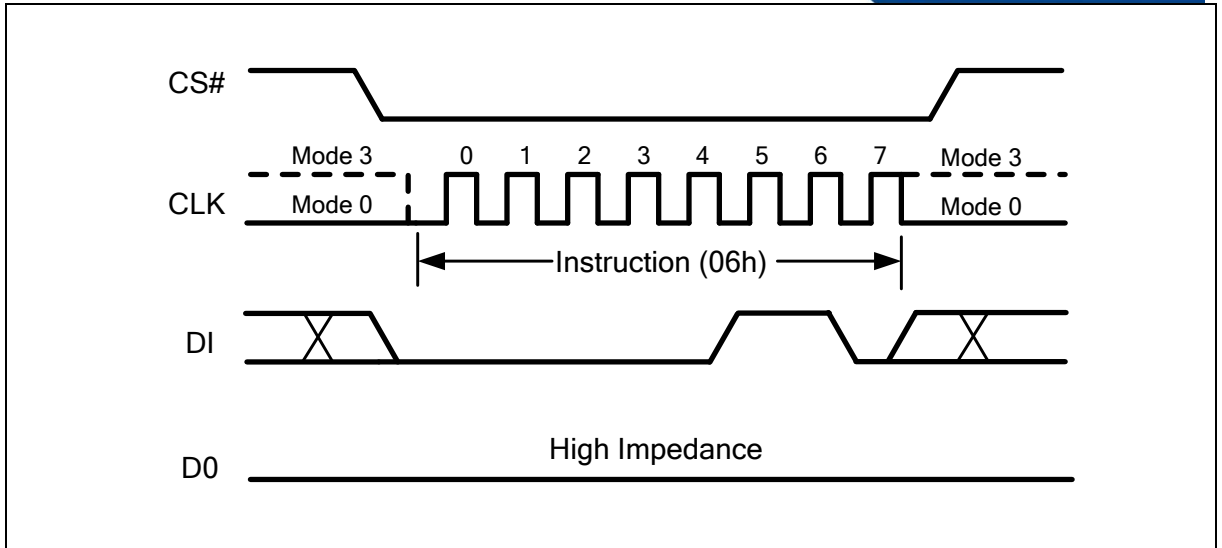
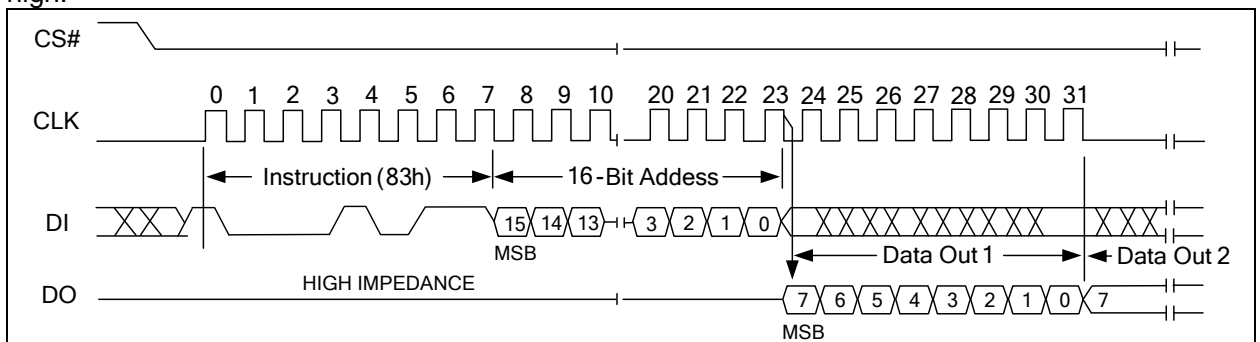

Figure 5 Write Enable Instruction
Figure 15 Read UID Number Sequence
Instructions vary in length from a single byte to several bytes and may be followed by address bytes, data bytes, and in some cases, a combination. Instructions are completed with the rising edge of edge CS#. Clock relative timing diagrams for each instruction are included in Figure 5 through Figure 15. All read instructions can be completed after any clocked bit. However, all instructions that Write must complete on a byte boundary (CS# driven high after a full 8-bits have been clocked) otherwise the instruction will be ignored. This feature further protects the device from inadvertent writes. Additionally, while the memory is being written, or when the Status Register is being written, all instructions except for Read Status Register will be ignored until the write cycle has completed.
The Write Enable (WREN) instruction (Figure 5) sets the Write Enable Latch (WEL) bit in the Status Register to a 1. The WEL bit must be set prior to every Write and Write Status Register instruction. The Write Enable (WREN) instruction is entered by driving CS# low, shifting the instruction code "06h" into the Data Input (DI) pin on the rising edge of CLK, and then driving CS# high.
The Read Unique ID Number instruction accesses a factory-set read-only 128-bit number that is unique to each FM25128 device. The ID number can be used in conjunction with user software methods to help prevent copying or cloning of a system. The Read Unique ID instruction is initiated by driving the CS# pin low and shifting the instruction code “83h” followed by a 16-bit address A15-A0 into the DI pin. Address bit A10A9 must be ‘01b’, upper address bits are don't care, the lower address bits [A3:A0] define the byte address inside the UID. After which, the 128-bit ID is shifted out on the falling edge of CLK as shown in Figure 15. When the end of the 128-bit UID number is reached (16 bytes of data), the data word address will roll-over back to the beginning of the 128-bit UID number. The read UID cycle is terminated by driving CS# pin high.